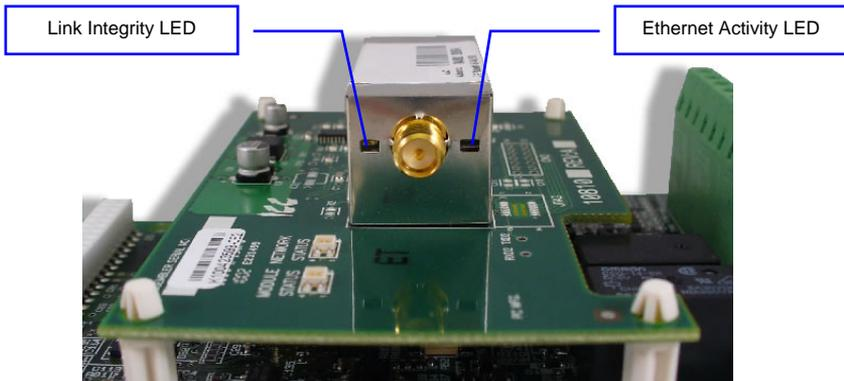

Figure 4: Wireless Network LED Indicators
Refer to Figure 4. This amber LED:
- This green LED blinks briefly when network packets are sent or received. Refer to Figure 4.